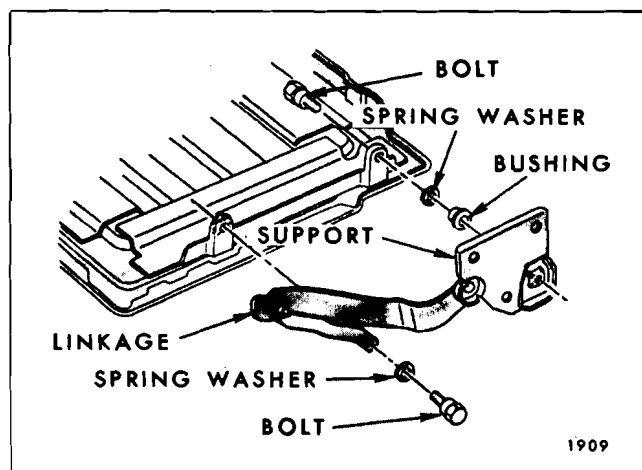

Fig. 15-75—Third Seat Back Panel and Linkage
2. At both sides of third seat back panel remove seat back linkage bolt (Fig. 15-75) and bolt securing seat back panel to support (Fig. 15-75), then remove seat back panel assembly from body.